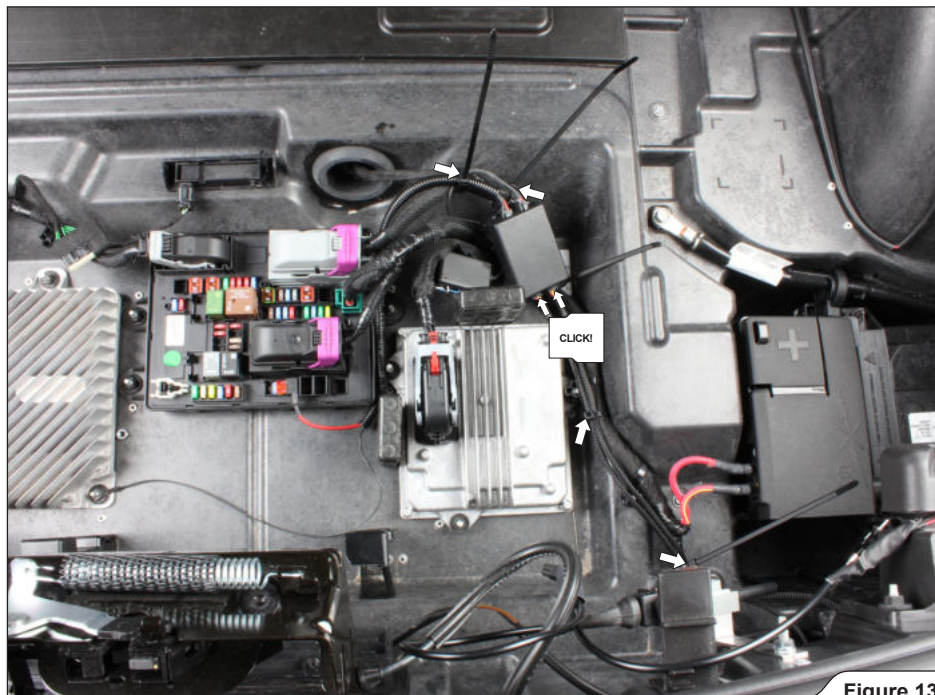

Figure 13
11. Connect the servo harnesses to the Control Kit unit, secure the Control Kit's components and wiring harness (using tie wraps from Akrapovič installation kit), as shown (**Figure 13**).